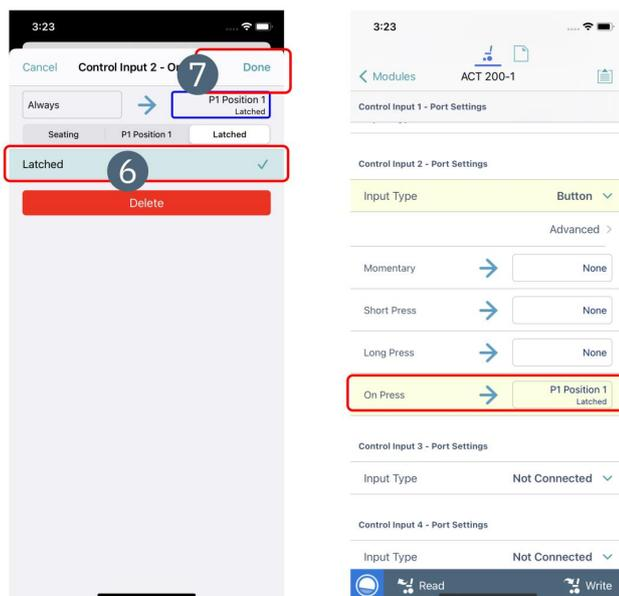

Figure 103: Configure a control input steps 6-7
6. From the final screen, select **Latched** - *Figure 103*.